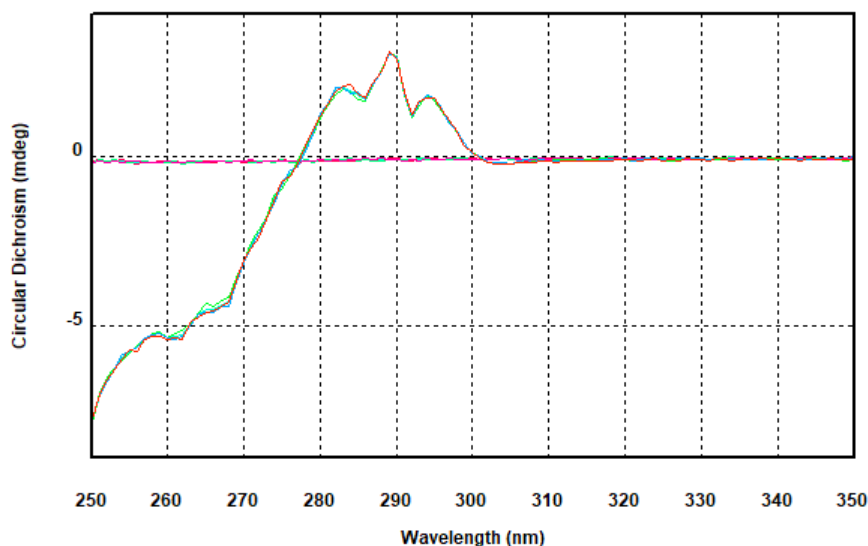

Figure 72: Data of two datastores (buffer and protein) displayed in the Graphical Display
- To add more Datastores to a Graphical Display, select multiple Datastores from the list in the usual way (using the left mouse button with Ctrl or Shift keys) and drag them onto the Graphical Display (Figure 72).